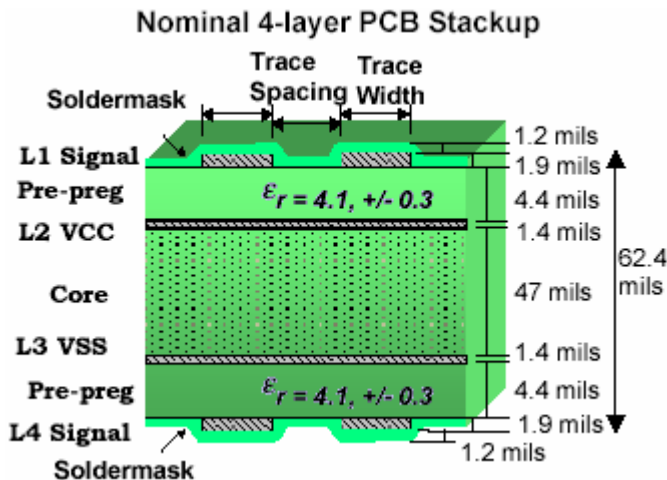

Figure 17: The PCB layers stack-up
6. The next time when the “SigTest 2.0 Beta” is used, the new template “PCIEX_Rx_input_of_receiver” is available in the pop-up window as in the Figure 17, in addition to the “PCIEX_TX_ADD_CON_250UI” and the “PCIEX_TX_SYS_CON_250UI”, for the Pericom Rx demo board compliance test.